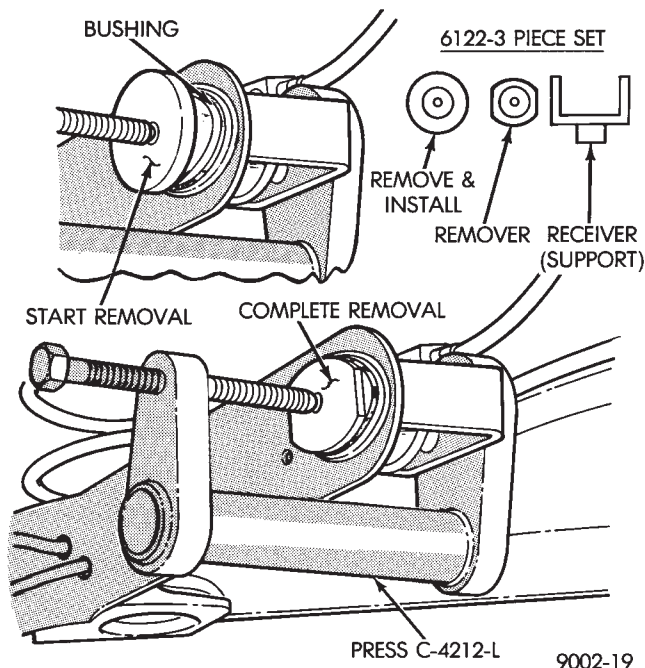

Fig. 8 Tools Installed To Remove Bushing
(1) Install receiver (support) bridge into base of press C-4212-L and bushing Remover/Installer disc onto screw.
(2) Position assembly with receiver bridge supporting trailing arm while turning screw to begin bushing removal.
(3) After bushing has begun to move replace bushing remover/installer (round disc) with bushing remover (oval shaped disc). Use this assembly to finish pressing bushing out of trailing arm (Fig. 8).